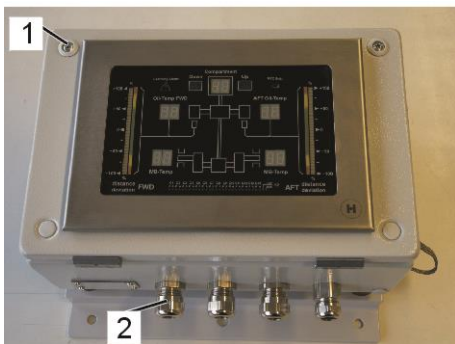

Fig.89: Indication unit
3. Loosen the screws on the Indication unit (Fig.89/1) and open it.
5. Guide the cables through the cables glands (Fig.89/2) into the Indication unit.